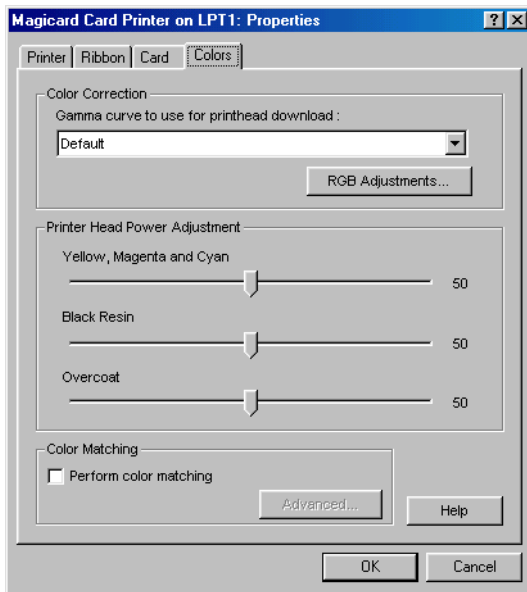

Figure 9: Printer Configuration Options – Color Tab
14. Click the Colors Tab and a window with color adjustment options appears (see Figure 9 on page 9).